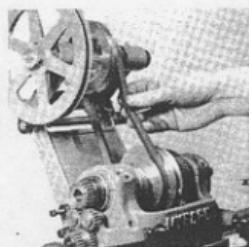

Fig. 9
g Pull the belt tensioning lever forward against the stop (i.e. with the lever and knob roughly vertical) so that the cam shaft (8) is in the full lift position. Adjust the tensioning screws (9) until the slack of the belt allows approx.  $\frac{1}{2}$ " total movement when lightly oscillated by the thumb and forefinger. This will provide an initial tension setting, which can be increased if slip is experienced when the machine is operated. See Figs. 9 and 10.